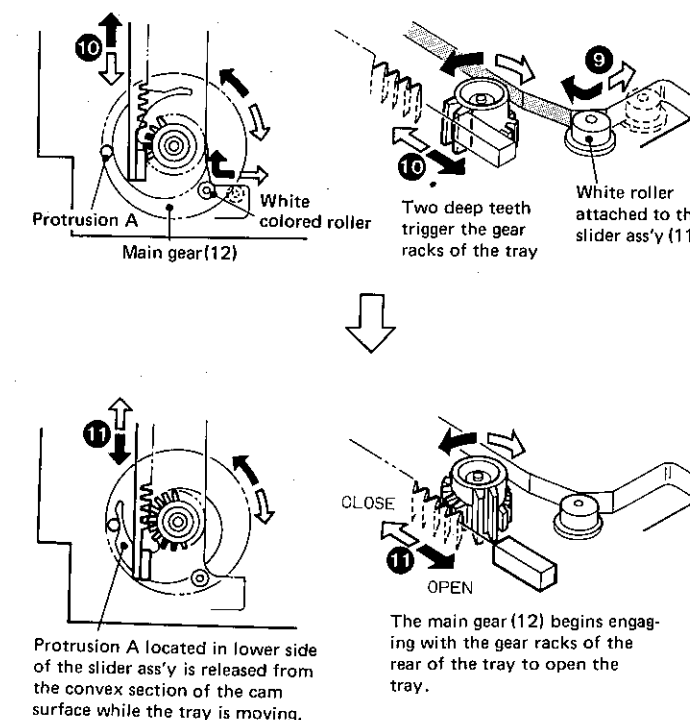

Fig. 6 Gear (12) operations
Fig. 6 shows the operation of the main gear(12) which actually performs the OPEN/CLOSE operation of the tray described above.